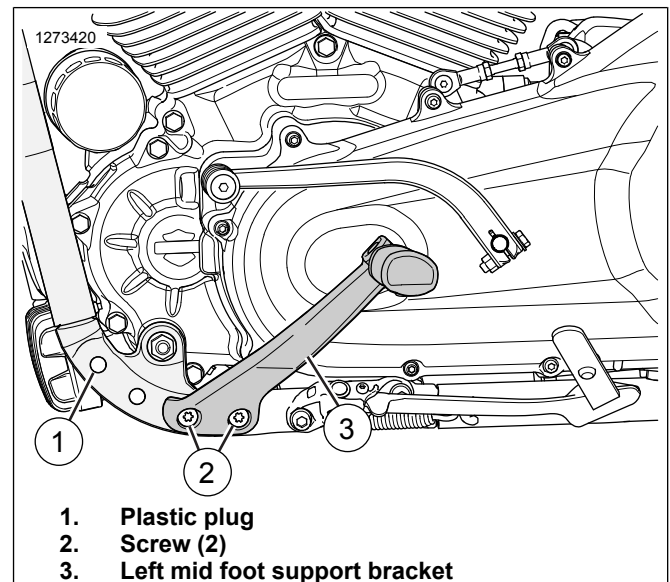

Figure 1. Left Mid Foot Support Bracket
- b. Remove clevis pin (1).
- c. Remove footpeg (4).
- d. Remove torsion spring (2).
2. See Figure 1. Remove the left mid foot support bracket (3).
- a. Remove screws (2).
3. Remove and discard plastic plug (1) if present.